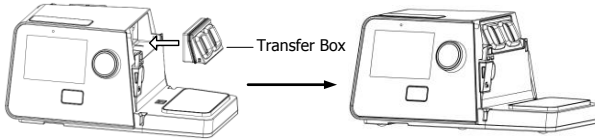

Fig. 18-3
(3) **Putting the Transfer Box back:** as shown in Fig. 18-3.